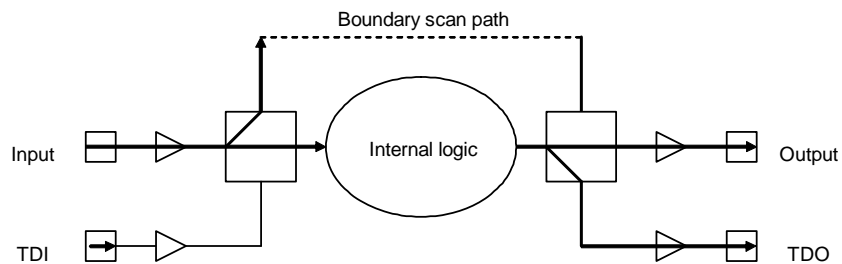

Fig. 21.9 Flow of Data While SAMPLE Is Selected
- The SAMPLE instruction is used to monitor the I/O pad of an IC. While SAMPLE is monitoring the I/O pads, the internal logic is not disconnected from the I/O pins of an IC. This instruction is executed in the Capture-DR state. A main function of SAMPLE is to read values of the I/O pins of an IC at the rising edge of TCK during normal functional operation. Fig. 21-9 shows the flow of data while the SAMPLE instruction is selected.